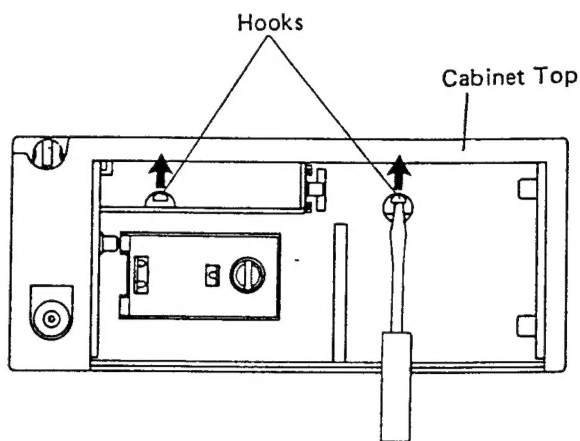

Figure 3
4. Push the two hooks in the direction of the arrow as indicated in Figure 3, and lift the Cabinet Top away from TV set. (NOTE: Be careful of the Rod Antenna and Handle, when you lift the Cabinet Top).